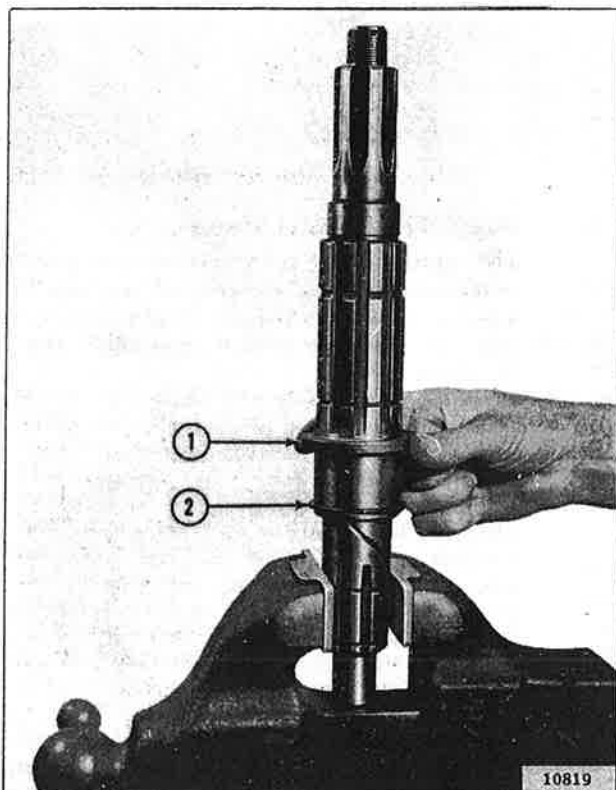

FIG. 198—SNAP RING AND THRUST WASHER INSTALLATION
e. Start assembly of the mainshaft assembly by placing the shaft in a vise (with soft metal covering the jaws) so that the threaded end of the shaft is up. Install snap ring and thrust washer at the forward end of the second-speed gear position. See Fig. 198. Install thrust washer with the recessed side covering the snap ring.